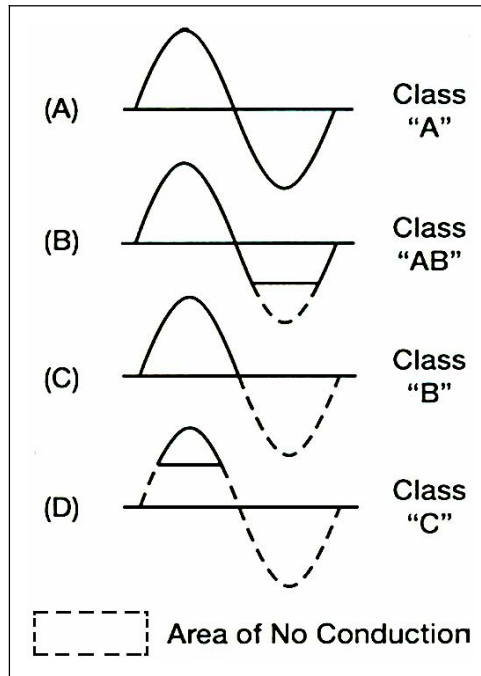

Figure 2-17. Comparison of Output Signals for the Different Amplifier Classes of Operation
Also refer to Figure 2-17 for a comparison of output signals for the different amplifier classes of operation.
2-54. Biasing an amplifier in this manner places the DC operating point between cutoff and saturation. This allows collector current to flow during the complete cycle (360 degrees) of the input signal, thereby providing an output, which is a replica of the input. Although the output from this amplifier is 180 degrees out of phase with the input, the output current still flows for the complete duration of the input (see Figure 2-17, view (A)). The class A operated amplifier is used as an audio and RF amplifier in radio, radar, sound systems, and so forth.
2-55. Amplifiers designed for class AB operation are biased so that collector current is zero (cutoff) for a portion of one alternation of the input signal. This is accomplished by making the forward-bias voltage less than the peak value of the input signal. By doing this, the base-emitter junction will be reverse biased during one alternation for the amount of time that the input signal voltage opposes and exceeds the value of forward-bias voltage. Therefore, collector current will flow for more than 180 degrees but less than 360 degrees of the input signal (see Figure 2-17, view (B)). Compared to the class A amplifier, the DC operating point for the class AB amplifier is closer to cutoff. The class AB operated amplifier is commonly used as a push-pull amplifier to overcome a side effect of class B operation called crossover distortion.
2-56. Amplifiers biased so that collector current is cut off during one-half of the input signal are classified class B. The DC operating point for this class of amplifier is set up so that base current is zero with no input signal. When a signal is applied, one half cycle will forward bias the base-emitter junction and I_C will flow. The other half cycle will reverse bias the base-emitter junction and I_C will be cut off. So, for class B operation, collector current will flow for approximately 180 degrees (half) of the input signal (see Figure 2-17, view (C)). The class B operated amplifier is used extensively for audio amplifiers that require high-power outputs. It is also used as the driver- and power-amplifier stages of transmitters.
2-57. In class C operation, collector current flows for less than one half cycle of the input signal (see Figure 2-17, view (D)). The class C operation is achieved by reverse biasing the emitter-base junction that sets the DC operating point below cutoff and allows only the portion of the input signal that overcomes the reverse bias to cause collector current flow. The class C operated amplifier is used as a RF amplifier in transmitters.
2-71. The CB configuration (see Figure 2-17, view (B)) is mainly used for impedance matching, since it has a low input resistance (30 ohms to 160 ohms) and a high output resistance (250 kilohms to 550 kilohms). However, two factors that limit its usefulness in some circuit applications are its low input resistance and its current gain of less than 1. Since the CB configuration will give voltage amplification, there are some additional applications that require both a low-input resistance and voltage amplification. Some microphone amplifiers use a circuit configuration of this type.
2-73. Unlike the CE circuit, the input and output signals in the CB circuit are in phase. To illustrate this point, assume the input to the PNP version of the CB circuit in Figure 2-17, view (B) is positive. The signal adds to the forward bias, since it is applied to the emitter, causing the collector current to increase. This increase in I_C results in a greater voltage drop across the load resistor R_L (not shown), thereby lowering the collector voltage V_C . The collector voltage, in becoming less negative, is swinging in a positive direction and is therefore in phase with the incoming positive signal.
2-78. The CC configuration (see Figure 2-17, view (C)) is used mostly for impedance matching. It is also used as a current driver, due to its substantial current gain. It is particularly useful in switching circuitry, since it has the ability to pass signals in either direction (bilateral operation).